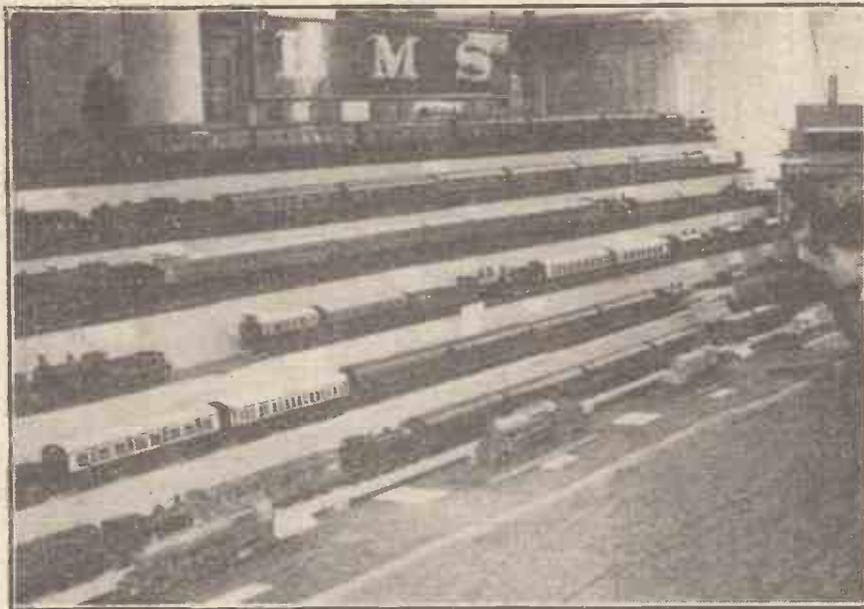

Fig. 1.—The Model Railway Club Exhibition: The excellent display of L.M.S. locomotives and rolling stock.
**M**ANY dealers in the disposal of ex-Government stock have on offer, at low prices, motor generators taken from aircraft radio equipment. These were built to take their supply from batteries giving voltages in the order of 24 volts DC, and to give out various DC voltages from 270 to 1,000 volts. For this purpose the machines have two, or sometimes three, commutators, one to provide a passage for the actuating current, and the others for the collection of the current generated. It is important to note that there are *only one pair of field coils* and that these are (a) common to all windings, and (b) they are designed for low voltage work, and consist of relatively few turns of heavy wire. Fig. 1 shows how these machines could have been wired in service; although it is possible, that control resistances may have been fitted in some cases.
The organisers are to be congratulated on the excellent grouping of the main railway model exhibits, which was most convenient for those interested mainly in locomotives and rolling stock of one particular railway section. The L.M.S. were leading with the greatest number of models (Fig. 1), but the Great Western had a more characteristic and comprehensive selection. The Great Western group was displayed in the Lower Hall, in a glass-fronted case, well floodlit from the top, and it included many models from the wonderful collection of Sir F. Leyland Barratt, the well-known G.W.R. enthusiast.